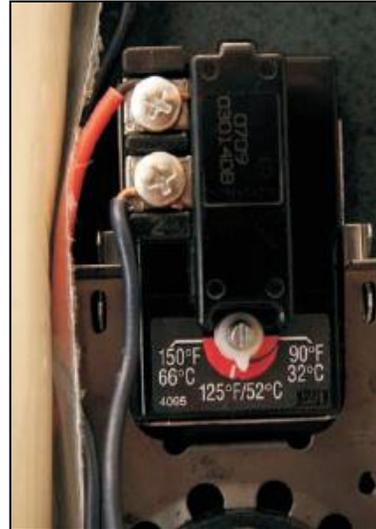

Fig. 4.10.1.5 – Connect red and black wires to Lower thermostat terminals. Set thermostat to 120 °F (50 °C).
- Remove lower cover plate from side of storage tank. Remove insulation and/or plastic plate covering element/thermostat. Disconnect wires from heating element – not from thermostat. Connect black wire descending from top to vacant terminal of thermostat (Fig. 4.10.1.5).